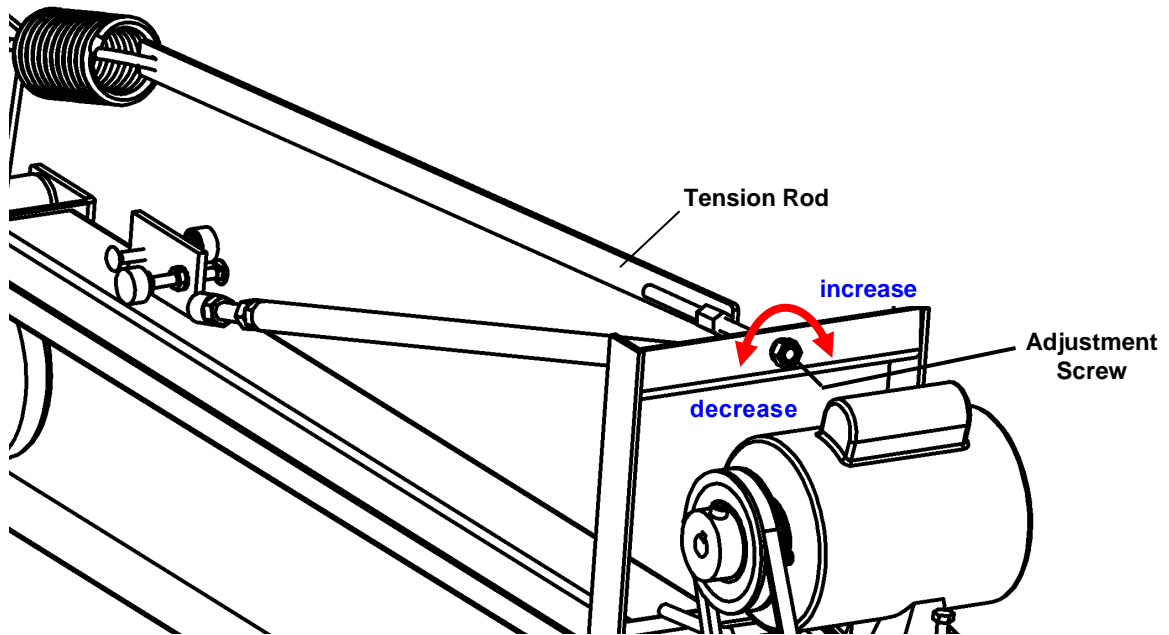

Figure 2-9, Flat Belt Adjustment
2. Adjust the flat belt tension by turning the long adjusting screw attached to the tension rod as shown in Figure 2-9.